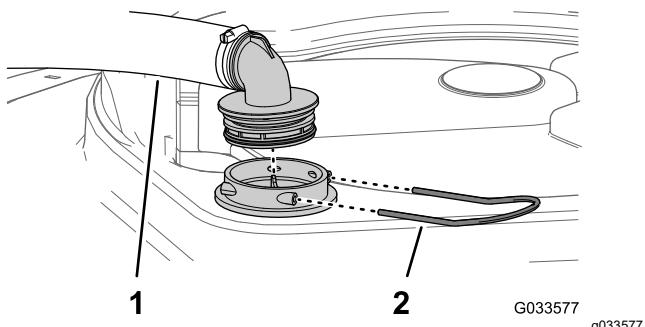

Figure 88
2. At the top of the sprayer tank, remove the retainer that secures the hose fitting attached to the large hose from the filter housing (Figure 88).
3. Remove the hose and hose fitting from the filter housing (Figure 88).